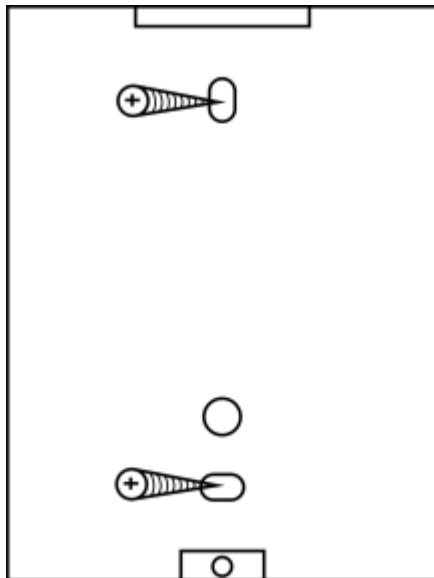

Figure 2
8.1.1 On the wall of the aperture size machine on the pan is playing well with a hole, or installed 2 existing junction box plus connecting.(Figure 2)